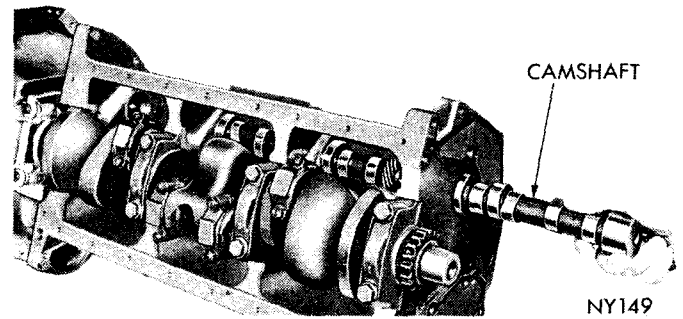

Fig. 22—Installing Camshaft
- (1) Lubricate camshaft lobes and camshaft bearing journals and insert camshaft in cylinder block (Fig. 22).